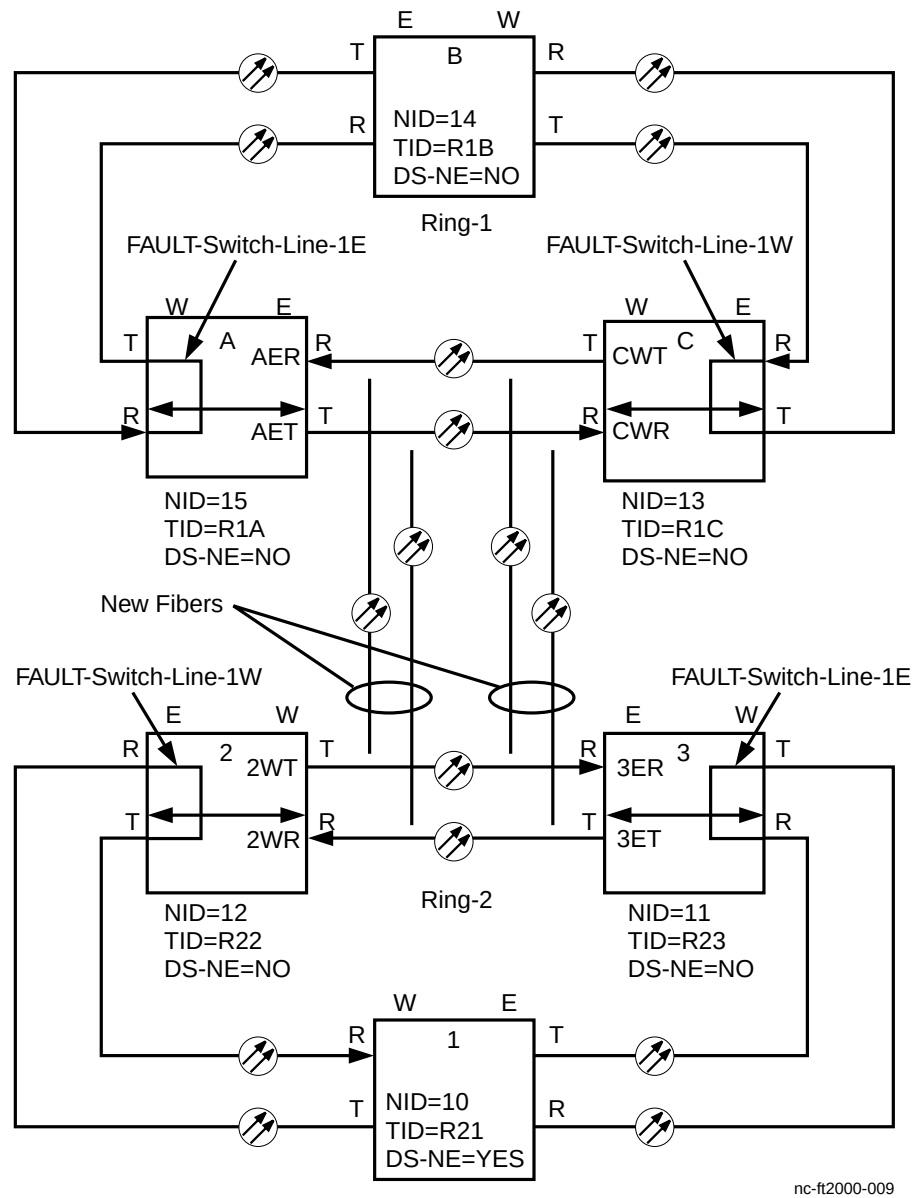

**Figure 5 – Example Depicting Rings With Existing Fibers Disconnected**
15. Instruct the installation/maintenance personnel, at node A to disconnect the East transmit fiber (point AET) and also verify that the West receiver (point CWR) has an incoming OC-48 LOS alarm and its FAULT LED is flashing. Refer to the example provided in Figure 5.
17. Instruct the installation/maintenance personnel, at node C, to disconnect the West transmit fiber (point CWT) and also verify that the East receiver (point AER) has an incoming OC-48 LOS alarm and its FAULT LED is flashing. Refer to the example provided in Figure 5.
19. Instruct the installation/maintenance personnel, at node 2, to disconnect the West transmit fiber (point 2WT) and also verify that the East receiver (point 3ER) has an incoming OC-48 LOS alarm and its FAULT LED is flashing. Refer to the example in Figure 5.
21. Instruct the installation maintenance personnel, at node 3, to disconnect the East transmit fiber (point 3ET) and also verify that the West receiver (point 2WR) has an incoming OC-48 LOS alarm and its FAULT LED is flashing. Refer to the example in Figure 5.